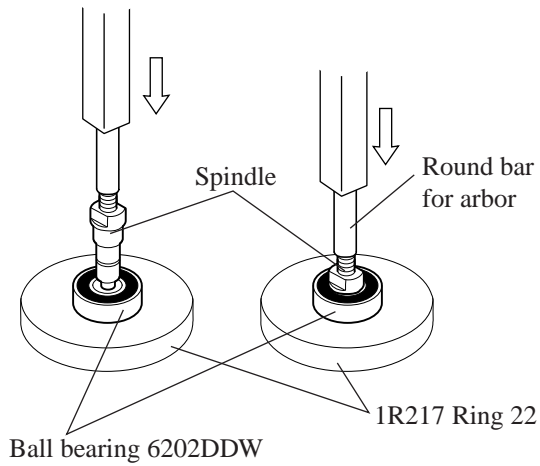

Fig. 8
- (1) Accepting ball bearing 6202DDW with No.1R217 "Ring 22", mount spindle to the ball bearing 6202DDW by pressing with arbor press. See Fig. 8.